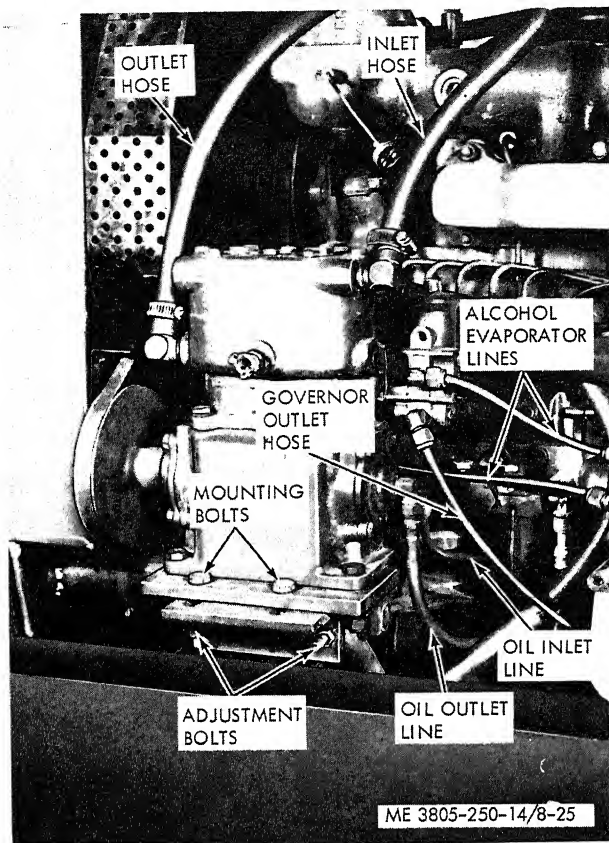

Figure 8-25. Air compressor, removal and installation.
*a. Removal.* Refer to figure 8-25.
(1) Block the wheels and apply the parking brake.
(2) Remove the right engine side panel.
(3) Drain the air reservoirs (para 3-19).
(4) Disconnect the inlet hose, outlet hose, governor outlet line, oil inlet line and oil outlet line